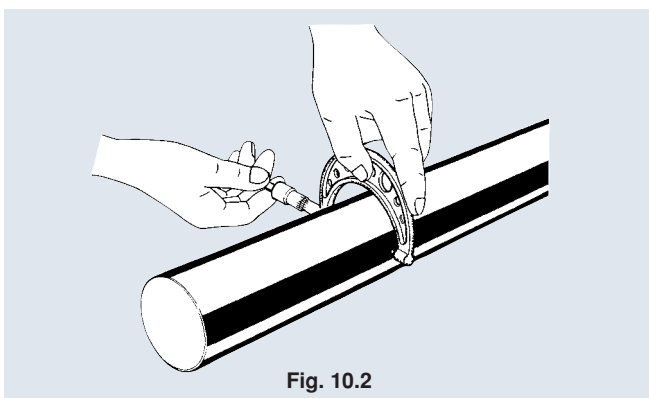

Fig. 10.2
- (2) Make sure that the shaft is free from bends or other damages and that it has been dimensioned and formed as specified. (Fig. 10.2)